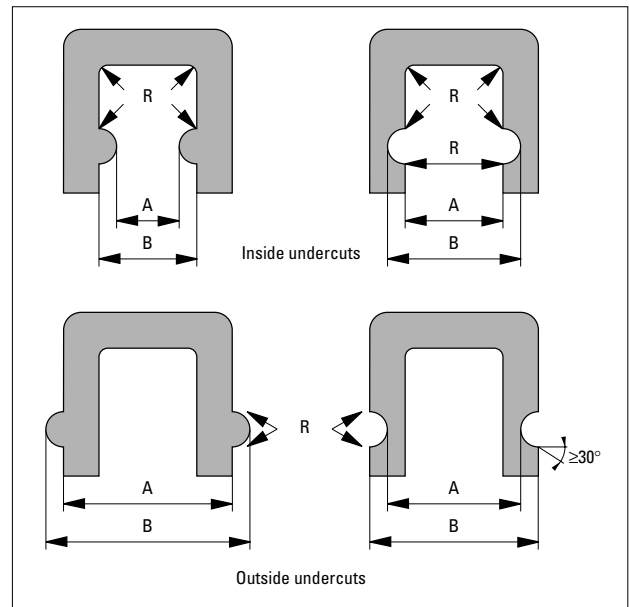

Fig. 4.18 Calculations for % undercut  $(B - A) / B \leq 5\%$
- Generally, parts of DELRIN® acetal can be moulded with a maximum 5% undercut. Calculation of allowable undercut is illustrated in Fig. 4.18. The allowable undercut varies somewhat with both wall thickness and diameter.